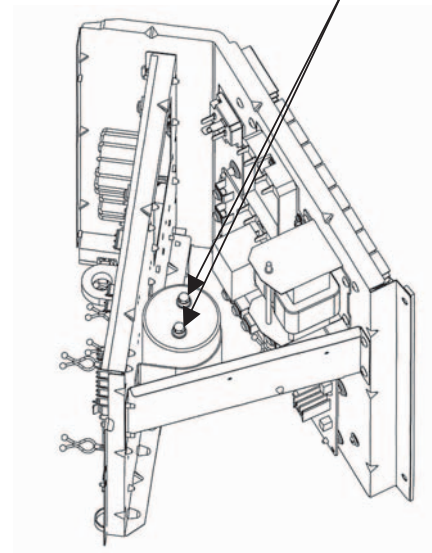

Fig.2 Position of capacitor
(Be sure to measure the voltage (DC) of two places (1.Resistor on PCB at the front of controller 2.Both capacitor terminals located in back of controller), and **check that the voltage is discharged sufficiently.** (Refer to Fig.2))